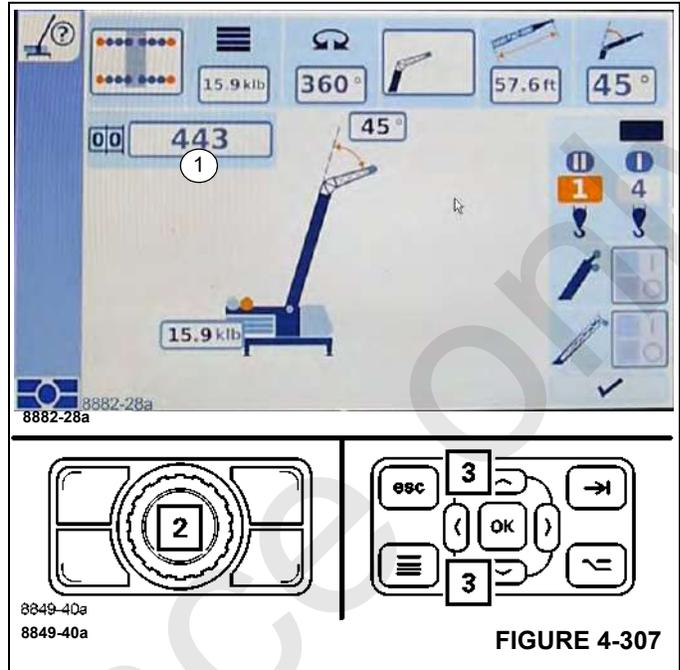

FIGURE 4-307
- Select and confirm the symbol (1), (Figure 4-307).
- Use the buttons (2), (Figure 4-307) or (3), (Figure 4-307) to select the required RCL Code.